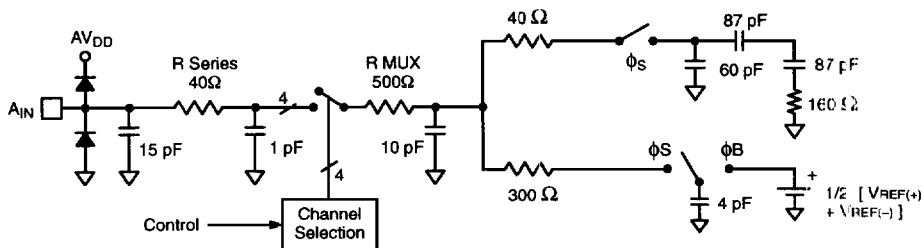

Figure 9. Analog Input Equivalent Circuit
- 3 See V_{IN} input equivalent circuit (see Figure 9).
Good driving capabilities (low resistance, high current) of circuitry driving the flash analog input are guaranteed to optimize the MP8799 performance. Figure 9. shows the equivalent circuit for A_{IN} .